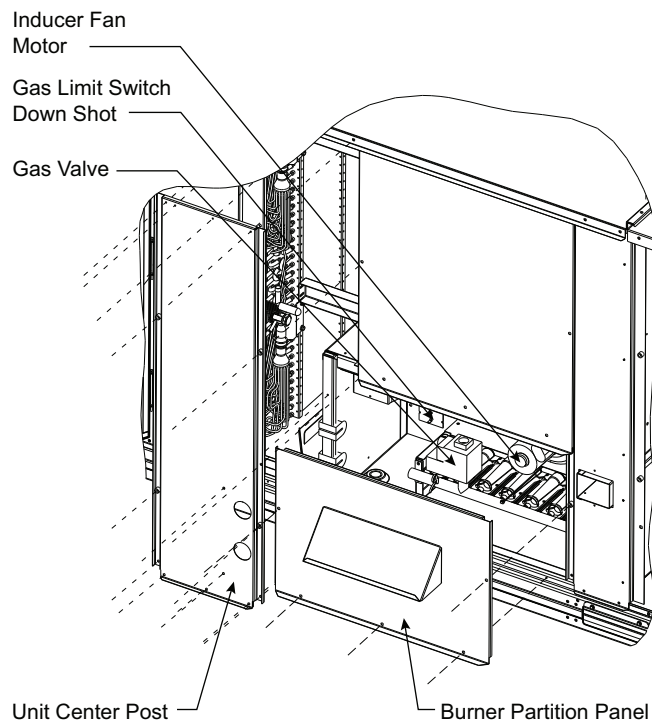

Fig. 45 — Burner Partition Pane and Unit Center Post
5. Remove the screws at the base of the burner partition panel (see Fig. 45) and slide out the panel.
3. Remove the unit center post (see Fig. 45).